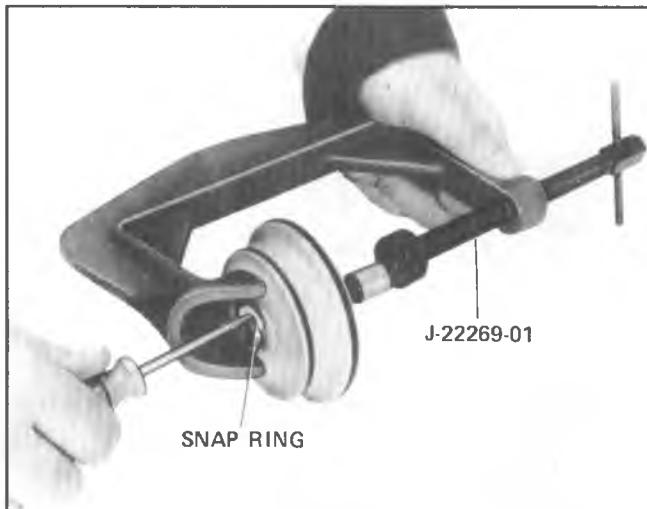

Fig. 7A-148A--Removing Intermediate Servo Piston from Apply Pin
4. Using J-22269-01, compress intermediate servo piston spring (Fig. 7A-148A).
6. If removed, install new intermediate servo piston, inner and outer seal rings. Make sure cut ends are assembled in the same relationship as cut (Fig. 7A-120A). Make sure rings are seated in the grooves to prevent damage to the rings. Retain with petrolatum.